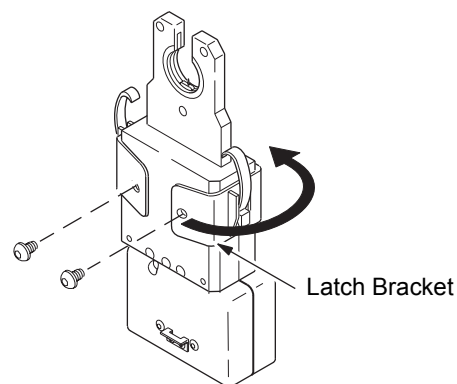
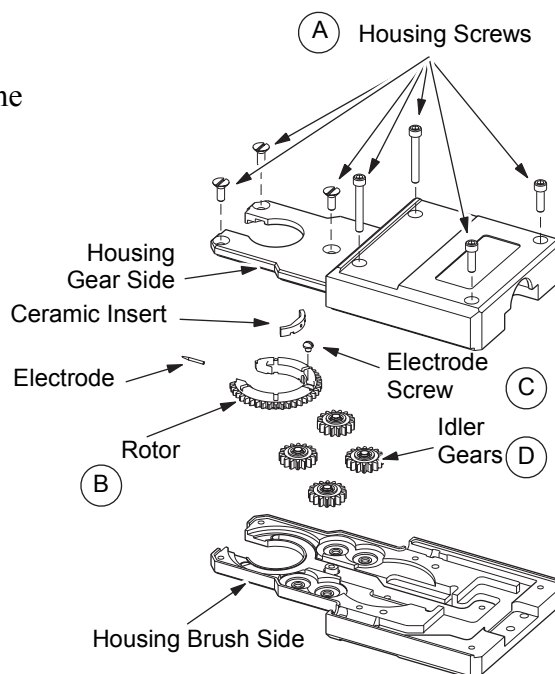

Figure 31 Removing Series 8 Micro Weld Head Latch Bracket
Figure 32 Removing Series 8 Micro Weld Head Components for Cleaning
To disassemble the Series 8 micro weld head for cleaning, use the following instructions. See Figure 31 and Figure 32 for part references.
1. Remove the two screws that secure the latch bracket and remove the bracket from the weld head. See Figure 31.
3. Remove the seven screws from the weld head housing. See Figure 32(A).
5. Remove the rotor by lifting it clear of the brush side housing. See Figure 32(B).
6. Loosen the electrode clamping screw, then remove the electrode and ceramic insert. See Figure 32(C).
9. Remove and inspect the four idler gears for damage. Replace if necessary. See Figure 32(D).